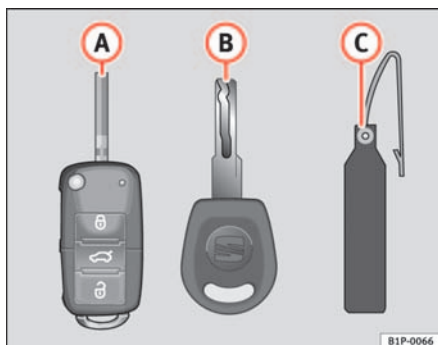

Fig. 63 Set of keys
- one remote control key ⇒ fig. 63 **A** with folding key bit,
Spare keys cannot be issued without the key number on the key tab ⇒ fig. 63 **B**. Therefore:
- Use both keys that have been delivered with the vehicle ⇒ page 99, fig. 63, the key fitted with the remote control  and the normal key .